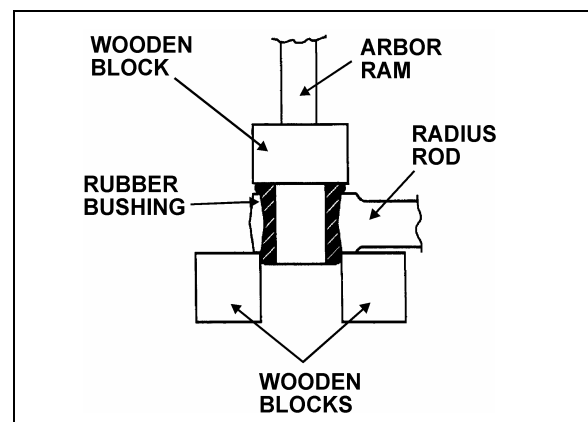

FIGURE 44: RADIUS ROD BUSHING INSTALLATION 16012
2. Safely support the radius rod, and place new bushing on top of the radius rod end (Fig. 44).